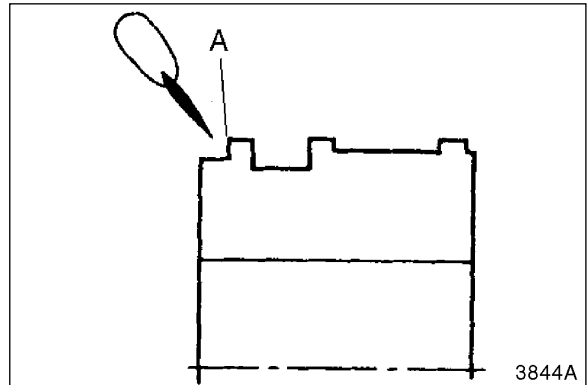

Figure 25
11. Apply grease or hydraulic oil to corner of piston at position A. See Figure 25.